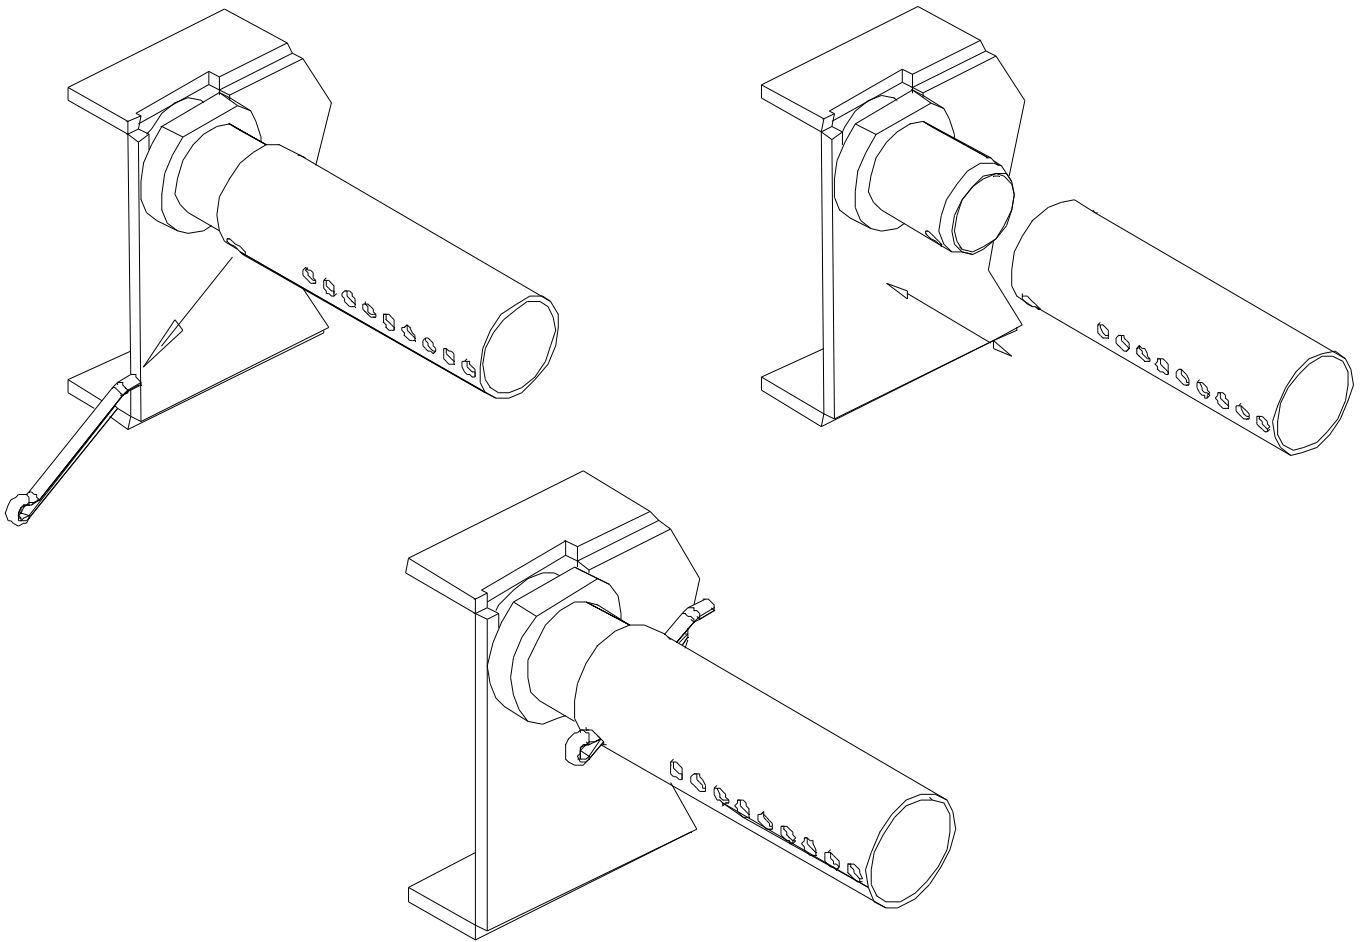

Figure 3.4 – Secondary Air Tube replacement
- Install the baffle support/extension (H) ensuring that it fits between the front risers and hold it in place. Install the front secondary air tube as show in figure 3.4c ensuring air holes face forward. Install the cotter pins as in fig 3.4. Installing the front secondary air tube (E) will stabilize baffle assembly during the next step.
- Install the middle (F) and rear (G) secondary air tubes ensuring air holes face forward. Install the cotter pins as in fig 3.4.
(See Figure 3.4)